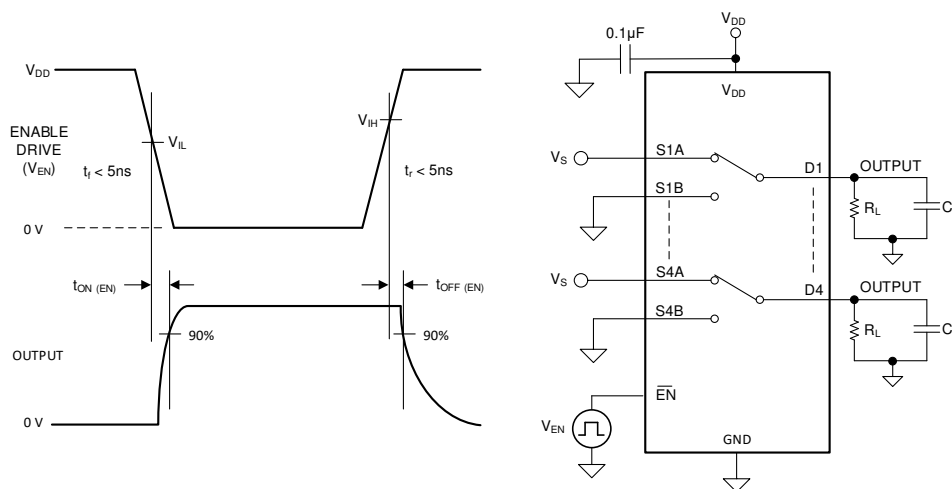

图 32. $t_{\text{ON (EN)}}$ and $t_{\text{OFF (EN)}}$ Time Measurement Setup
7.6 $t_{\text{ON (EN)}}$ and $t_{\text{OFF (EN)}}$ Time
The $t_{\text{ON (EN)}}$ time is defined as the time taken by the output of the device to rise to 90% after the enable has fallen past the logic threshold. The 90% measurement is used to provide the timing of the device being enabled in the system. 图 32 shows the setup used to measure the enable time, denoted by the symbol $t_{\text{ON (EN)}}$.
The $t_{\text{OFF (EN)}}$ time is defined as the time taken by the output of the device to fall to 90% after the enable has fallen past the logic threshold. The 90% measurement is used to provide the timing of the device being disabled in the system. 图 32 shows the setup used to measure enable time, denoted by the symbol $t_{\text{OFF (EN)}}$.